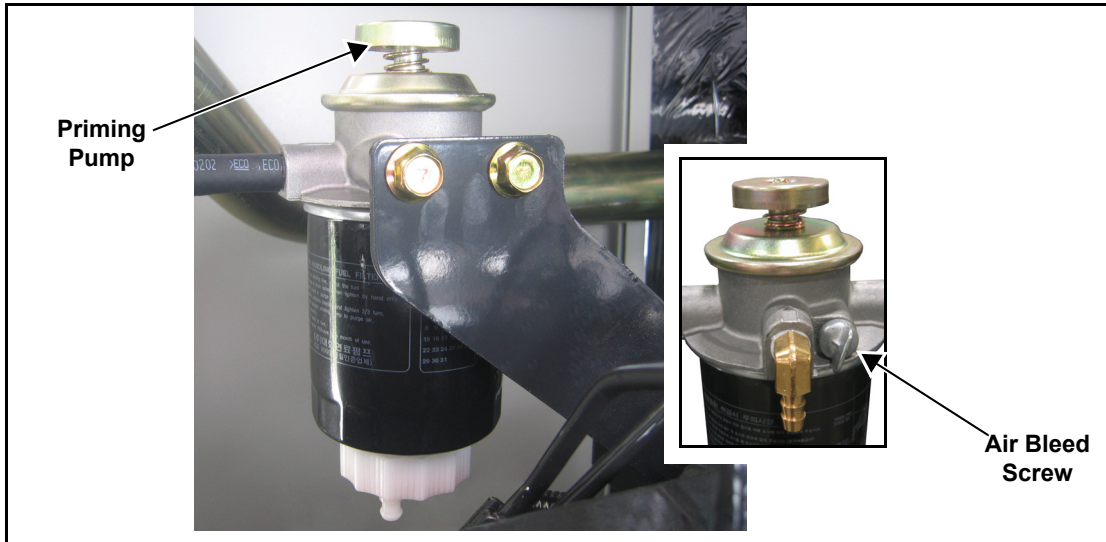

Figure 3-3. Prime Fuel System
1. See Figure 3-3. Loosen the air bleed screw and work priming pump until bubbles are observed. Place a shop rag around the air bleed screw to catch any loss of fuel.